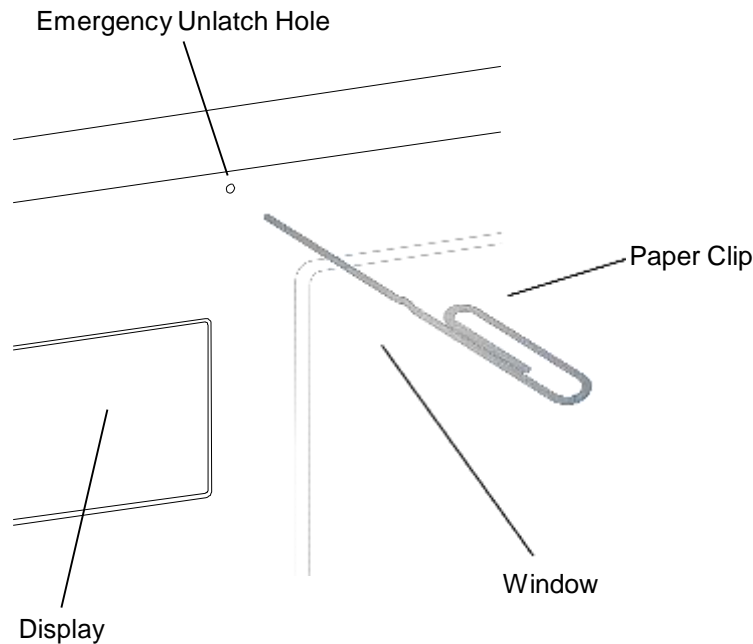

Figure 5-1 View of the Hole in the Front panel/door
2. Insert the straightened end of a paper clip into the Emergency Unlatch Hole in the front panel/door as shown in Figure 5-1.
Drives can be installed with the RLS powered on or off. If the RLS is not powered or malfunctioning, the front panel/door may be opened by inserting a straightened paper clip into the hole in the front panel/door. See Figure 5-1 in Section 5.3.